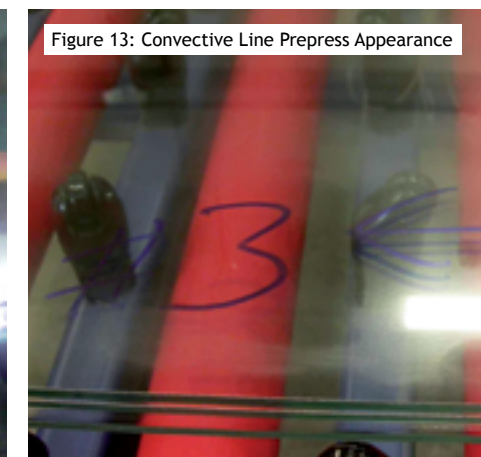

Figure 13: Convective Line Prepress Appearance
- Convective furnaces tend to operate from the middle to upper range for the recommended glass temperature. The overall appearance will be mostly clear (see Figure 13).